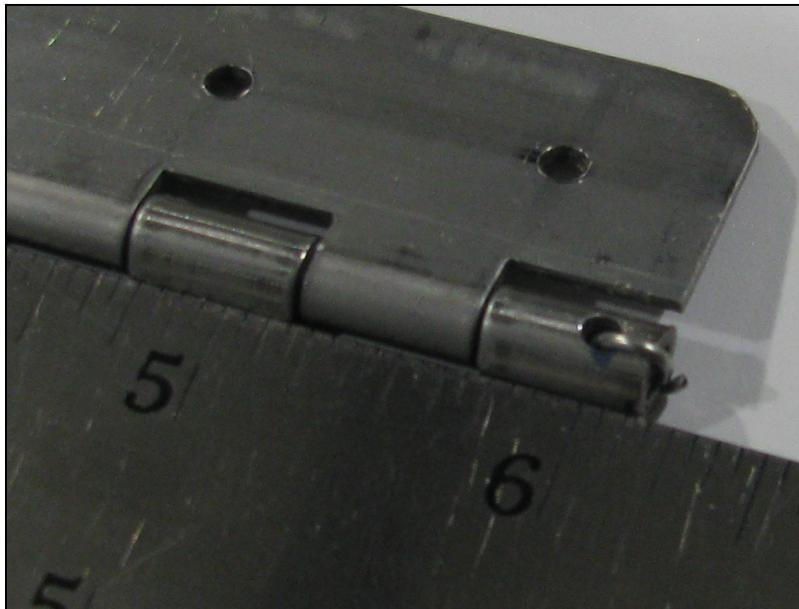

Figure 3. Safety wire pin keeper.
2. Drill a 3/32" hole near the end of the outboard leaf rolls on each elevator hinge. This hole should be approximately center 1/8" from the end of the leaf roll. **See figure 3.**
3. Use a short piece of 0.032 safety wire to create a loop thru the hole. This will act as a keeper and not allow the pin to work out of the hinge leaf. **See figure 3.**